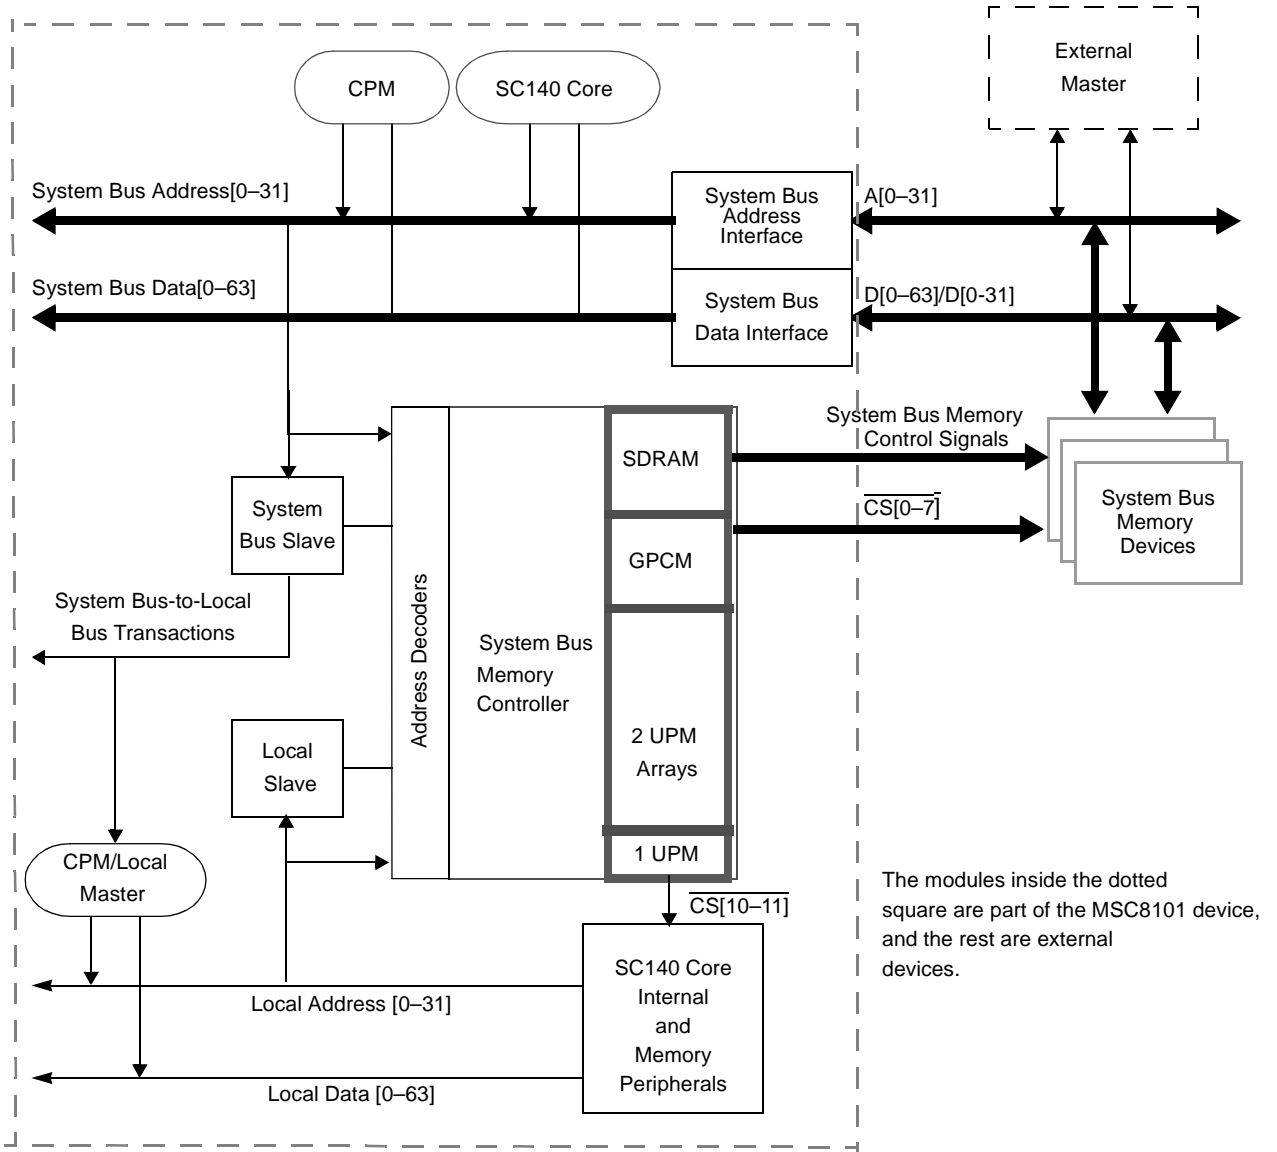

Figure 1. MSC8101 Memory Controller
**Figure 1** shows the MSC8101 memory controller (MEMC), which consists of three user-programmable machines (UPMs), one general-purpose chip-select machine (GPCM), and one SDRAM machine. The SDRAM machine is available only on the system bus, which can assign memory banks to the SDRAM machine. Features of the SDRAM machine include: